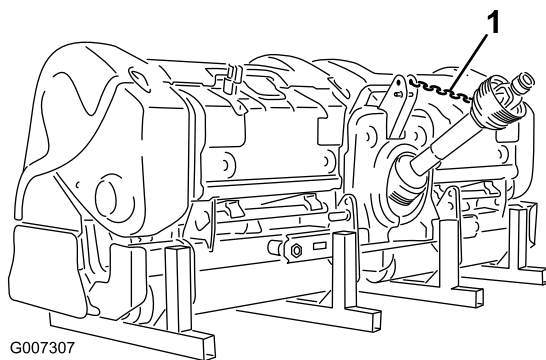

Figure 44
12. Connect the PTO tether to the PTO shield to prevent the PTO shaft from contacting the ground (Figure 44).